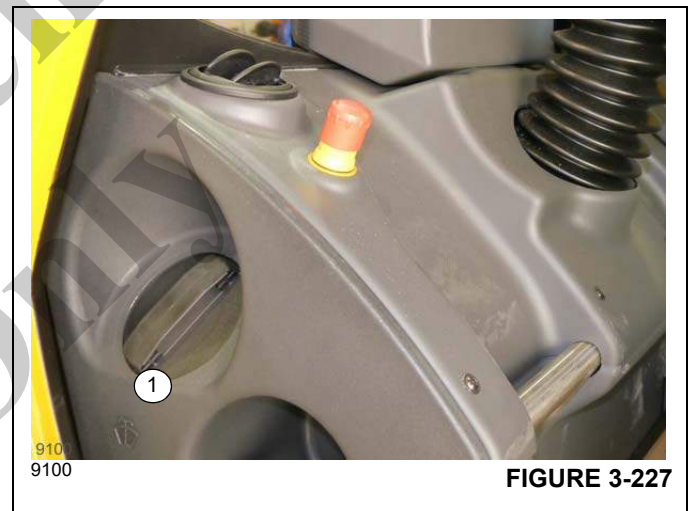

FIGURE 3-227
The windshield wiper fluid tank (1), (Figure 3-227) is located on the left side of the instrument panel. Remove the cap to fill the tank.